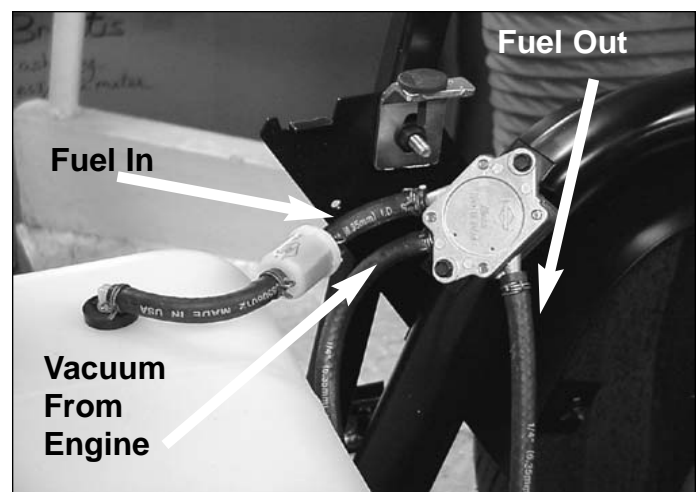

Figure 55 - Remove Fuel and Vacuum Line
1. Carefully, disconnect the single vacuum hose from top of engine and two fuel hoses from fuel pump. See Figure 55.
1. Place fuel pump on main frame, recessed into mounting bracket. Install two mounting screws. See Figure 55.